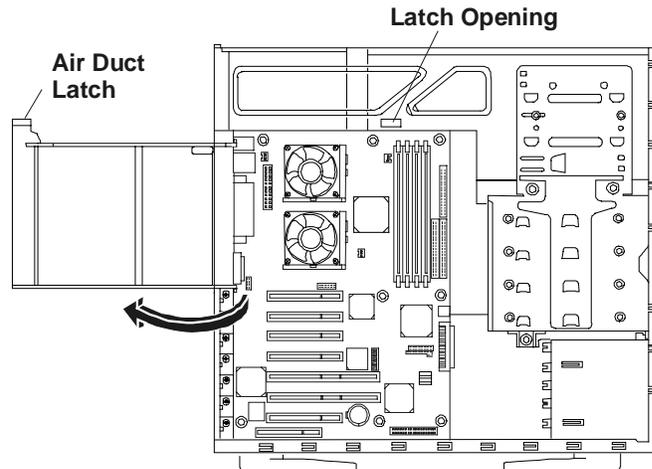

Figure 6-2. Moving the Air Duct
7. Unlatch the air duct and move it out of the way. See Figure 6-2.